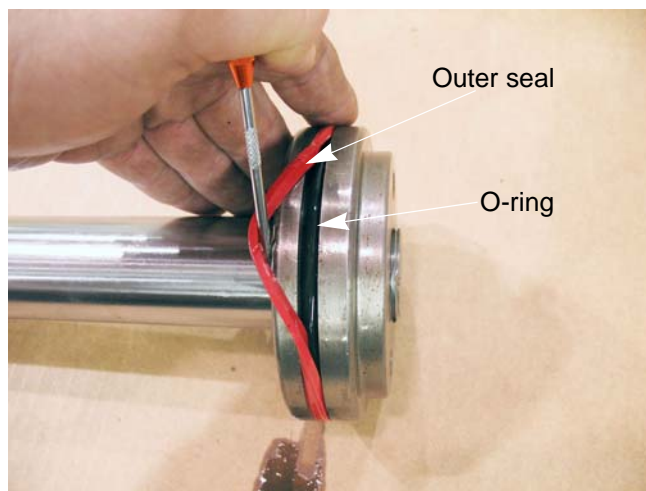

Figure 5.17
28. Carefully pry the outer piston seal off of the piston. See Figure 5.17.